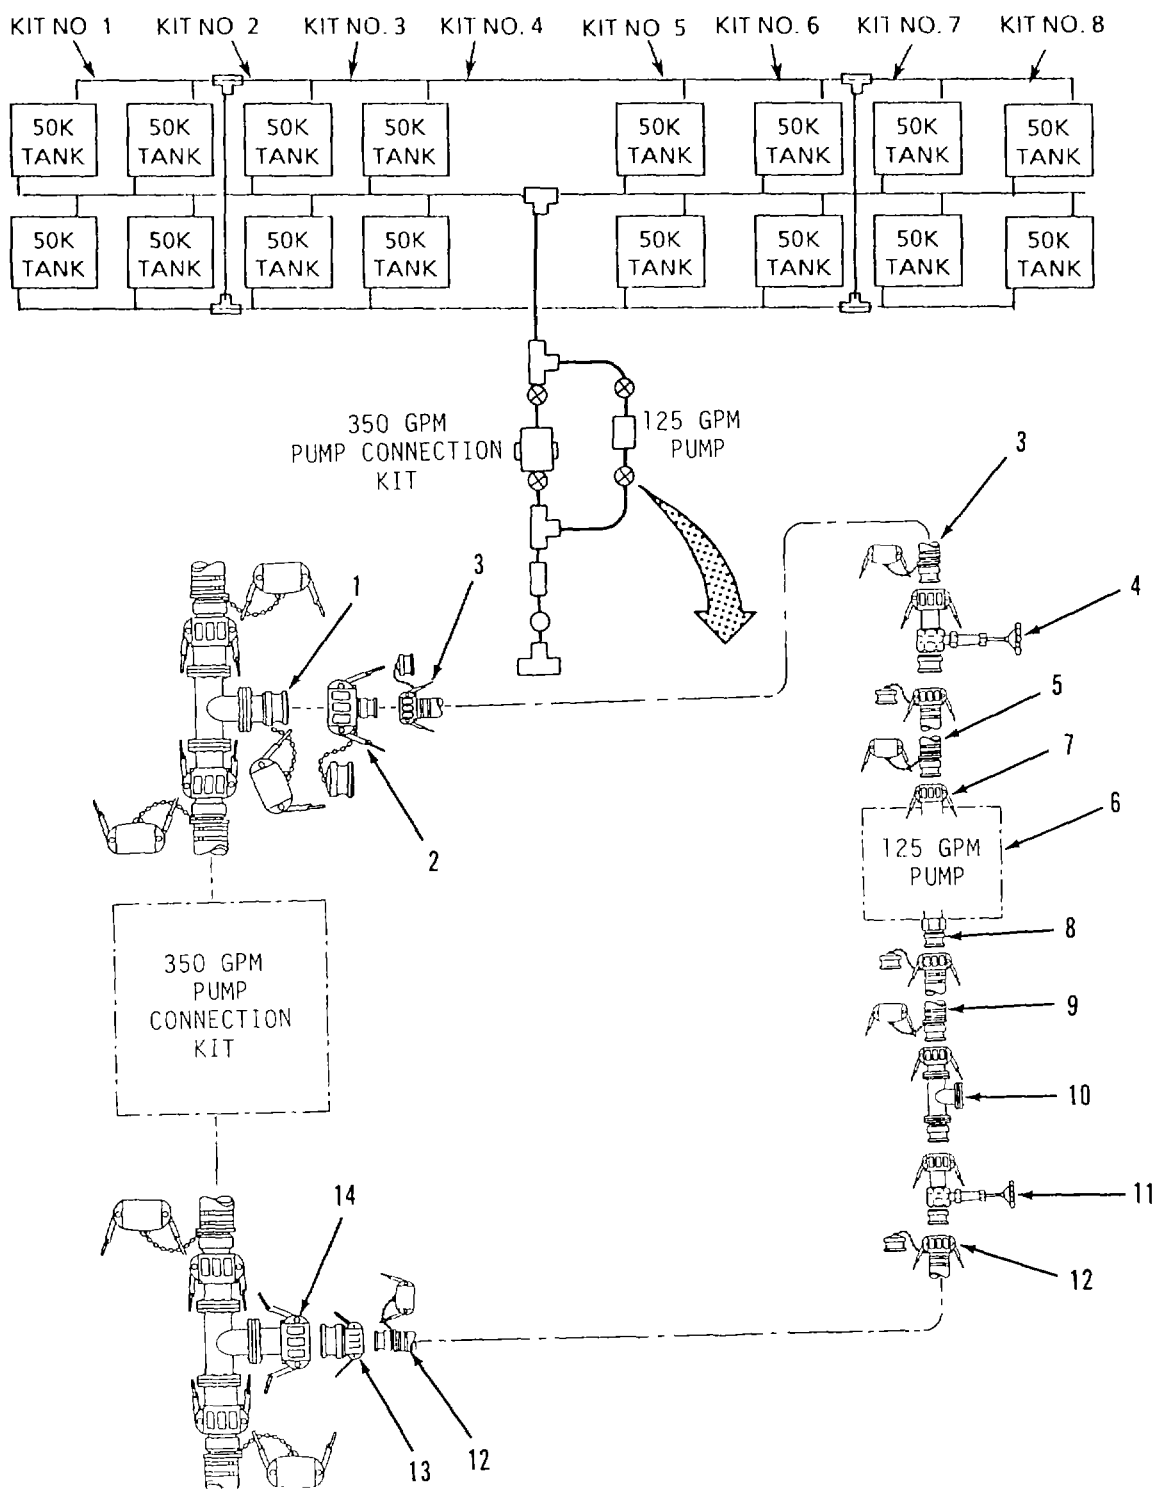

Figure 2-18. 125 Gpm Pump Connection Kit Assembly (Distribution Point).
- (17) Connect water meter (16) to 20 foot discharge hose (15).
- (18) Connect tee (17) to water meter (16).
- (19) Connect adapter (4-inch male x 4-inch male) (18) to 10 foot discharge hose (19) (part of dual tank connection kit no. 4)
- (20) Connect 10 foot discharge hose (20) (part of dual tank connection kit no 5) to adapter (18).
k. Assemble 125 Gpm Pump Connection Kit (Distribution Point). Refer to figure 2-18.